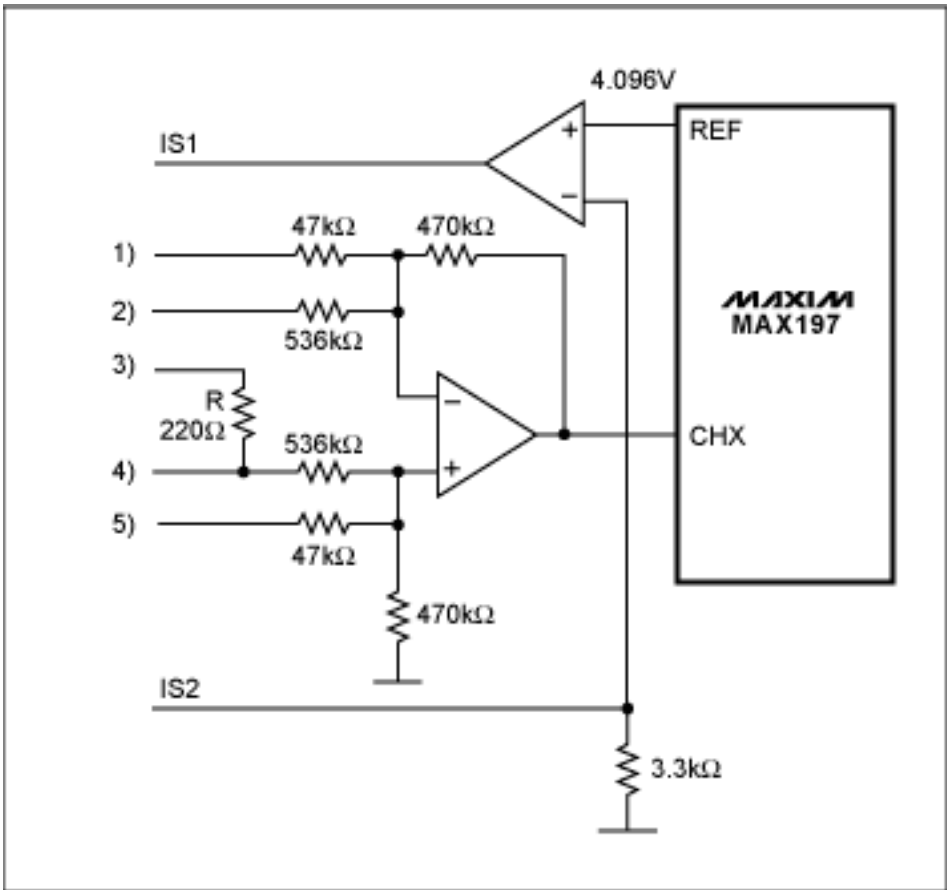

Figure 6. This universal-input circuit adapts the ADC to the signal range present on each input channel.
Rather than dedicating specific circuits for specific input ranges, use the following circuit (**Figure 6**) to adapt the ADC input to any of the signal ranges described earlier. Choosing an input pin and ADC input range (Table 1) selects the appropriate configuration.
**Table 1. Input Connections for Figure 6**